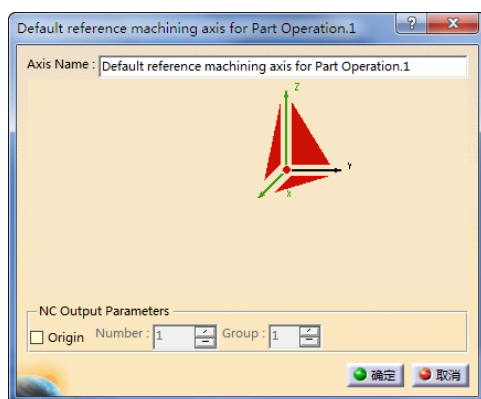

图 4-5 “Default reference machining axis for Part Operation.1”对话框(1)
- 单击“Part Operation”对话框中的 Default reference machining axis system 按钮, 弹出“Default reference machining axis for Part Operation.1”对话框(1), 如图 4-5 所示。